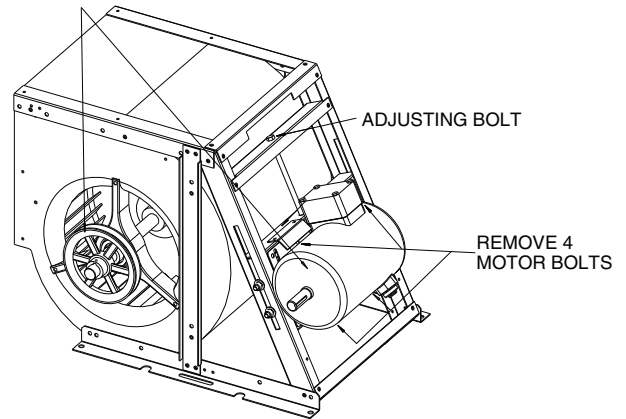

Fig. 8 — Removing Motor
3. Remove blower sheave. Remove motor bolts and carefully remove motor. See Fig. 8.